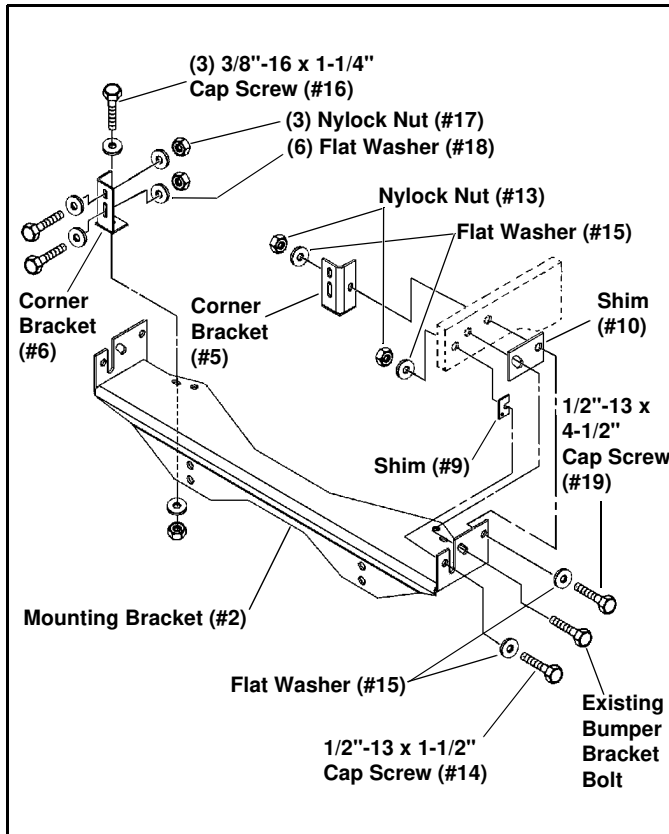

Figure 1
- 4A. Attach Mounting Bracket (#2) and bumper support brackets, previously removed, with (2) 1/2" x 1-1/2" Cap Screws (#14), (4) Flat Washers (#15), and (2) Nylock Nuts (#13) provided. Flat washers are used on both the bolt and nut side. Through the middle holes on the side of the mounting bracket, use previously removed bumper bracket bolts to attach. (See Figure 1.)
- 4C. Attach Corner Support to vehicle crossmember with (2) 3/8" x 1-1/4" Cap Screws (#16), (4) Flat Washers (#18), and (2) Nylock Nuts (#17). Attach Corner Support to vehicle side rail and Mounting Bracket with (1) 1/2" x 4-1/2" Cap Screw (#19), (2) Flat Washers (#15) and (1) Nylock Nut (#13). Fasten Corner Supports to Mounting Bracket with (1) 3/8" x 1-1/4" Cap Screws (#16), (2) Flat Washers (#18), and (1) Nylock Nuts (#17). Flat Washers are used on both the bolt and nut side.